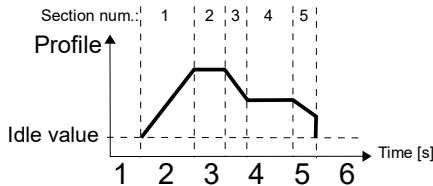

Fig. 7.109. Sample of Profile/timer
- **level (gate)** – this means that the Profile configured by the user when the source signal has the value  $> 0$ , otherwise (if source value  $\leq 0$ ) the defined Profile will not be generated. See Fig. 7.109 and example a) in Fig. 7.110,
- **edge (once)** – this means that the Profile configured by the user will be triggered by the rising edge (from values  $\leq 0$  to the value  $> 0$ ) of the source signal. After the rising edge the Profile will be generated in whole (once), regardless of further changes to the signal source, see Fig. 7.109 and example b) in Fig. 7.110,
- **edge (re-triggering)** – this means that the Profile configured by the user will be triggered by the rising edge (from values  $\leq 0$  to the value  $> 0$ ) of the source signal. However, in this mode, unlike the edge (once) mode the defined Profile will be generated from the beginning every time the Triggering source signal generates an edge, whether that Profile had been completed or not. See Fig. 7.109 and example c) in Fig. 7.110,
Fig. 7.110. Samples of **Profile** output waveforms defined in Fig. 7.109, triggered by signal selected in **Triggering source** parameter for **Triggering mode: level (gate), edge (once), edge (retrig.)**